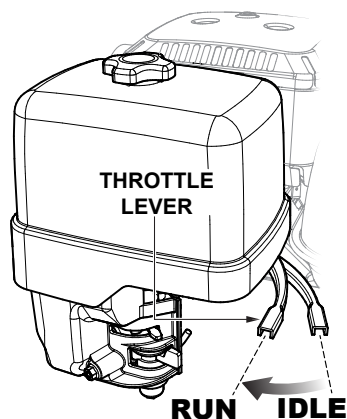

Figure 14. Engine Throttle Lever (Run)
11. To begin pumping, place the throttle lever (Figure 14) in the **RUN** position.